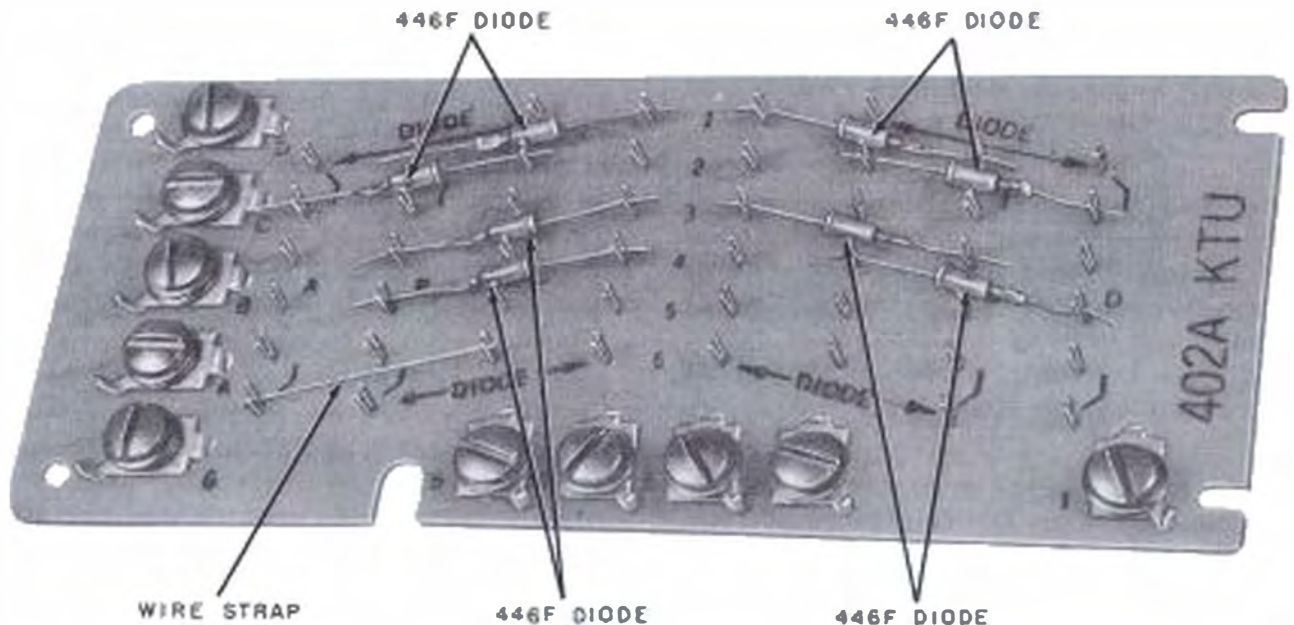
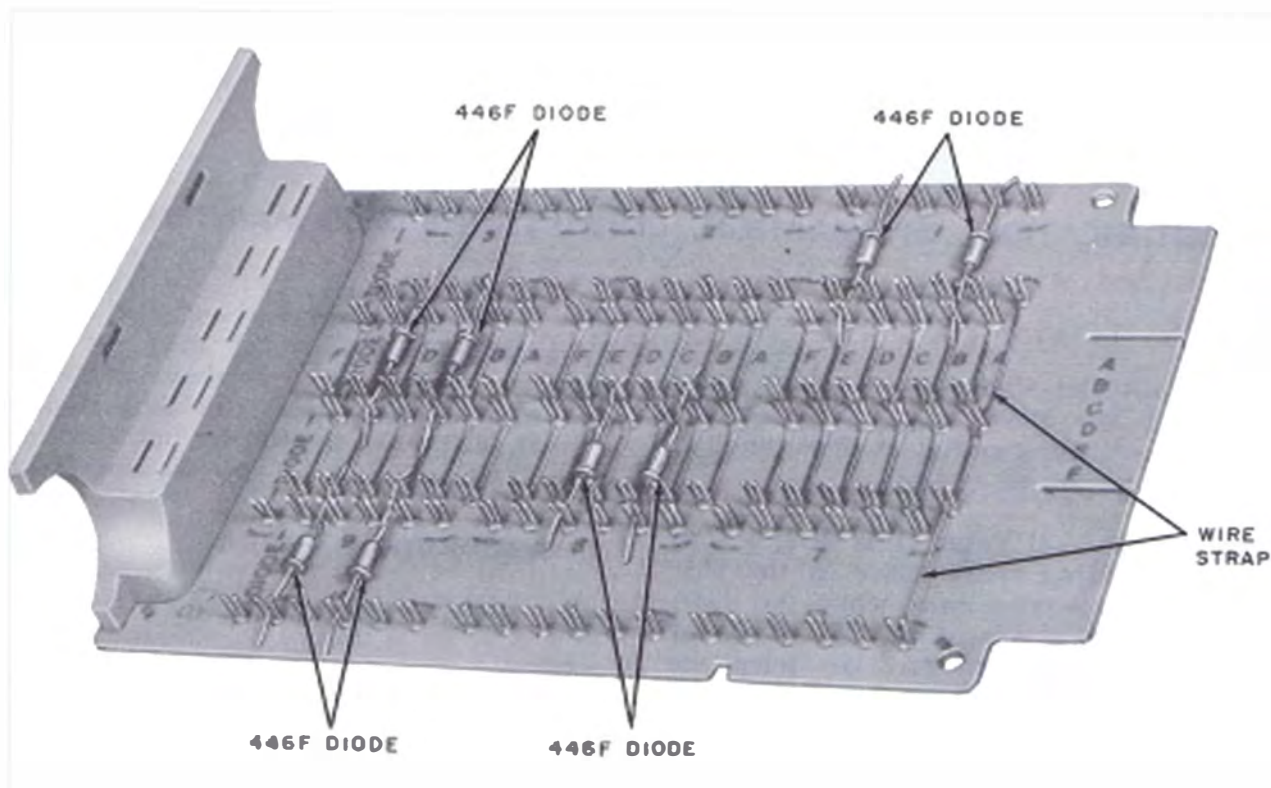

Fig. 1 — 402A KTU, With Diodes and Strap Installed
Fig. 2 — 404A KTU, With Diodes and Straps Installed
1.02 The 402A KTU (Fig. 1) is designed to utilize existing spare space in the 501- and 502-type key service units while the 404A KTU (Fig. 2) makes use of all 18-contacts of the connectors used in the 1A2 key telephone systems.
**3.01** Install the 446F diodes, or equivalents, on the KTUs between the station ringer terminals and the line circuit terminals as required. Point the diode arrow toward the ringer terminal and press the leads into the clips using a pair of long-nose pliers. See Fig. 1 and 2 for typical diode installations.
**3.02** A diode is not required when only one common ringer will be signaled from a line circuit. Install a 24-gauge bare wire strap between the terminals (see Fig. 1 and 2). If it becomes necessary to connect additional ringers to this line, replace the strap with a diode.